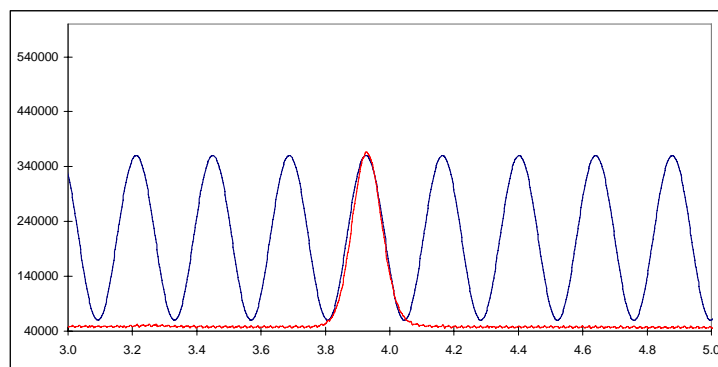

Fig. 2. Overlay of a chromatographic peak ($W = 15$ s, $f = 1/15 = 0.07$ Hz) with 0.07 Hz sine.
In a simplified model, the frequency of a chromatographic peak in LC can be calculated from the peak width (W) as $f = 1 / W$ (Fig. 2). For a passive, first